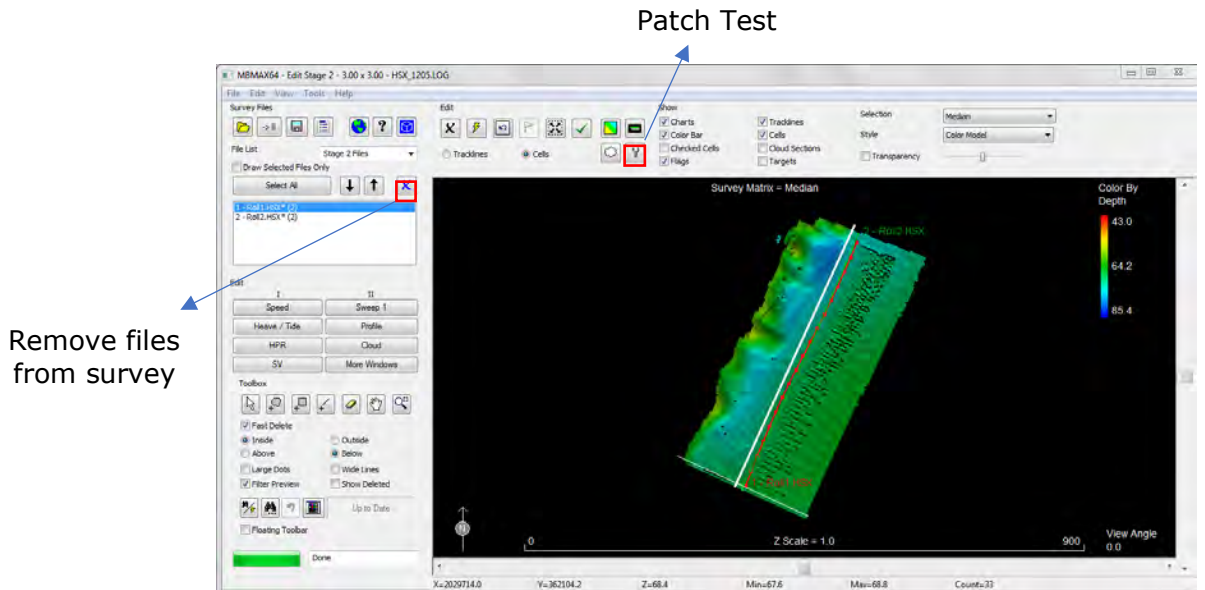

Figure 65: "Patch Test" tool and "Remove file from survey" icon on the MBMAX64 window
- ⇒ Click the "A-B Cross Section and Patch Test" button (wrench icon; red square on Figure 65)
- ⇒ To delete the files relative to the previous parameter, select them (CTRL+right click) and then click the blue cross icon (Figure 65)